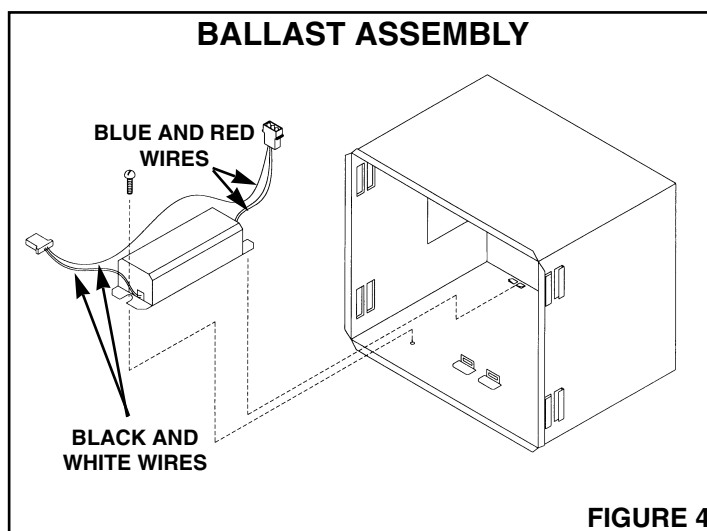

FIGURE 4
1. Refer to Figure 4. Slide ballast tab into slot in housing side and secure ballast with mounting screw.